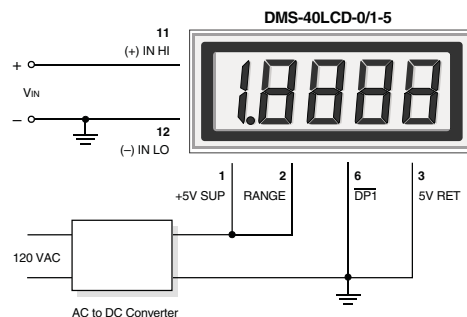

Figure 2. Single-Ended Input Configuration (5V-Powered Models)
- 1. Single-Ended Input Configurations:** True single-ended measurements can only be made with 5V-powered meters. The circuit of Figure 2 avoids problems normally associated with ground loop currents. Separate ground runs should be used for 5V RETURN (pin 3) and (–) INPUT LO (pin 12).